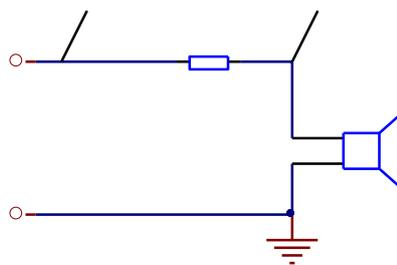

Figure 4.5 Description of Output Voltage Circuit
- ✓ Open-circuit Voltage: refers to output voltage when the circuit is open, generally used for electrical signal output and USB headphone output, as shown in V in Figure 4.5;
- ✓ Excitation Voltage: refers to voltage actually loaded on opposite sides of the device, as shown in V1 in Figure 4.5. The calculation principle and formula are shown in Figure 4.5 and Formula 4.1;
- Output Impedance: select the value of the circuit internal series resistor impedance, as shown in R1 in Figure 4.5;
- Nominal Impedance: actual impedance of device, as shown in R2 in Figure 4.5.